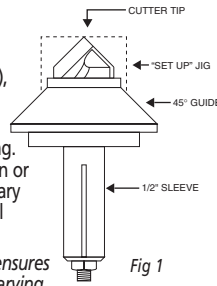

Fig 1
- By using the set up jig (supplied with the '3D' Router Carver), ensure the cutter tip is in the correct set up position. ie: The tip should be flush with the top of the jig. (Fig 1.)